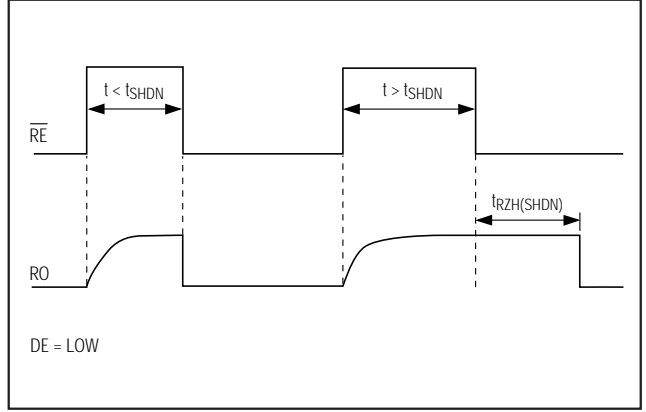

図4. シャットダウンタイミングダイアグラム
**Note 7:** Shutdown is enabled by bringing  $\overline{RE}$  high and DE low. If the enable inputs are in this state for less than 50ns, the device is guaranteed not to enter shutdown. If the enable inputs are in this state for at least 500ns, the device is guaranteed to have entered shutdown. Time to shutdown for the device ( $t_{SHDN}$ ) is measured by monitoring  $R_0$  as in Figure 4.